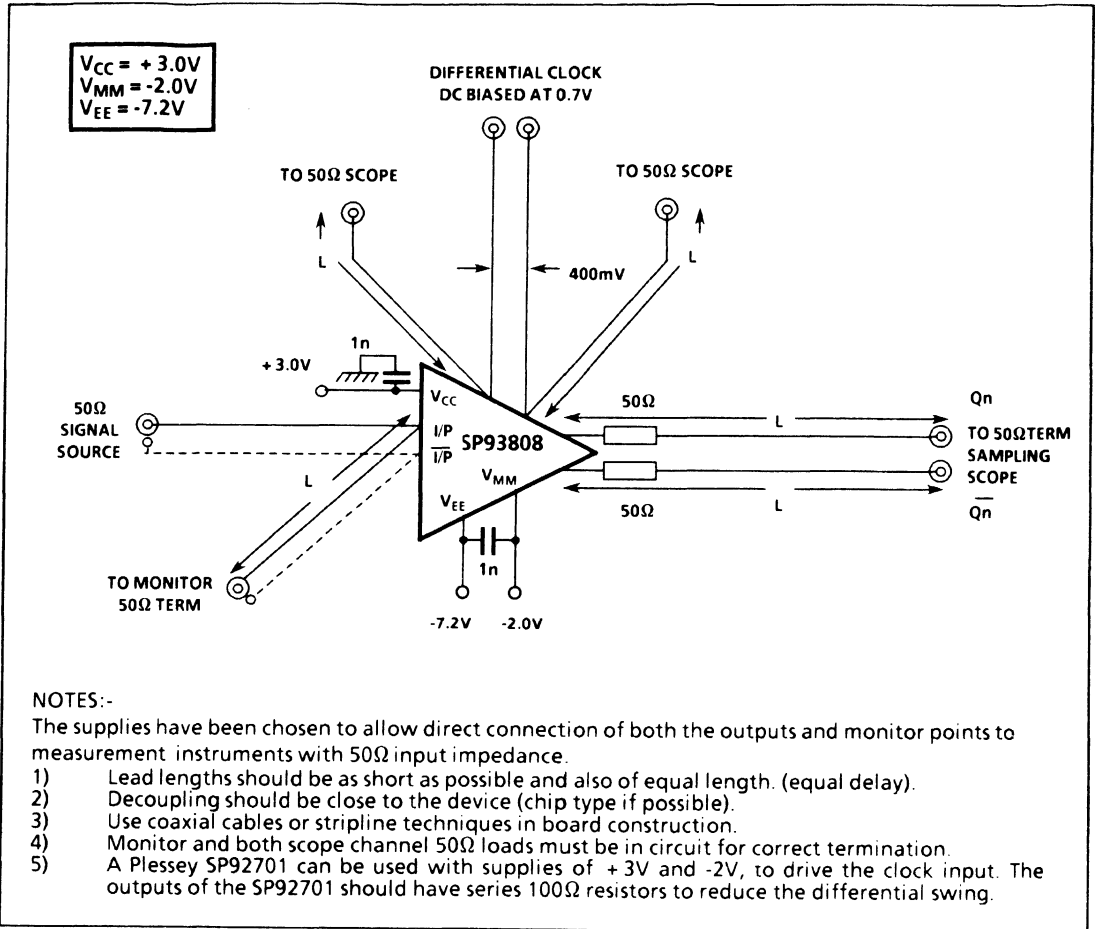

Fig.8 Comparator dynamic test circuit (one channel)
- 1 SET is the input to the glitch capture circuit and is logically the same as the Q output from the comparator, see Fig.8